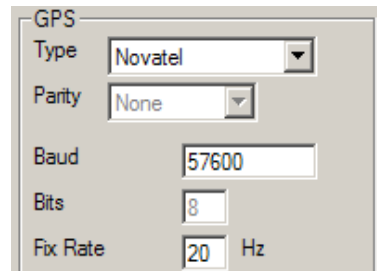

Figure 4 - GPS Tab
7. Now select the GPS tab. See Figure 4 - GPS Tab.